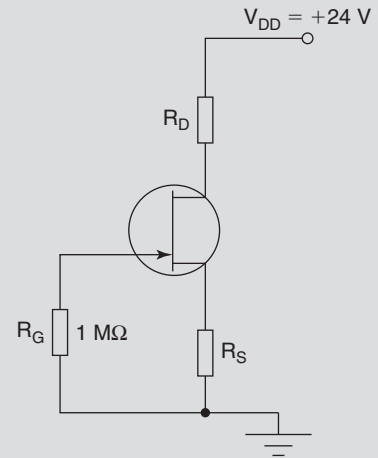

Fig. 29
- 3 The FET in Fig. 29 requires a quiescent gate-source voltage of -2V with a drain current of 5mA . Determine suitable values for R_S and R_D .